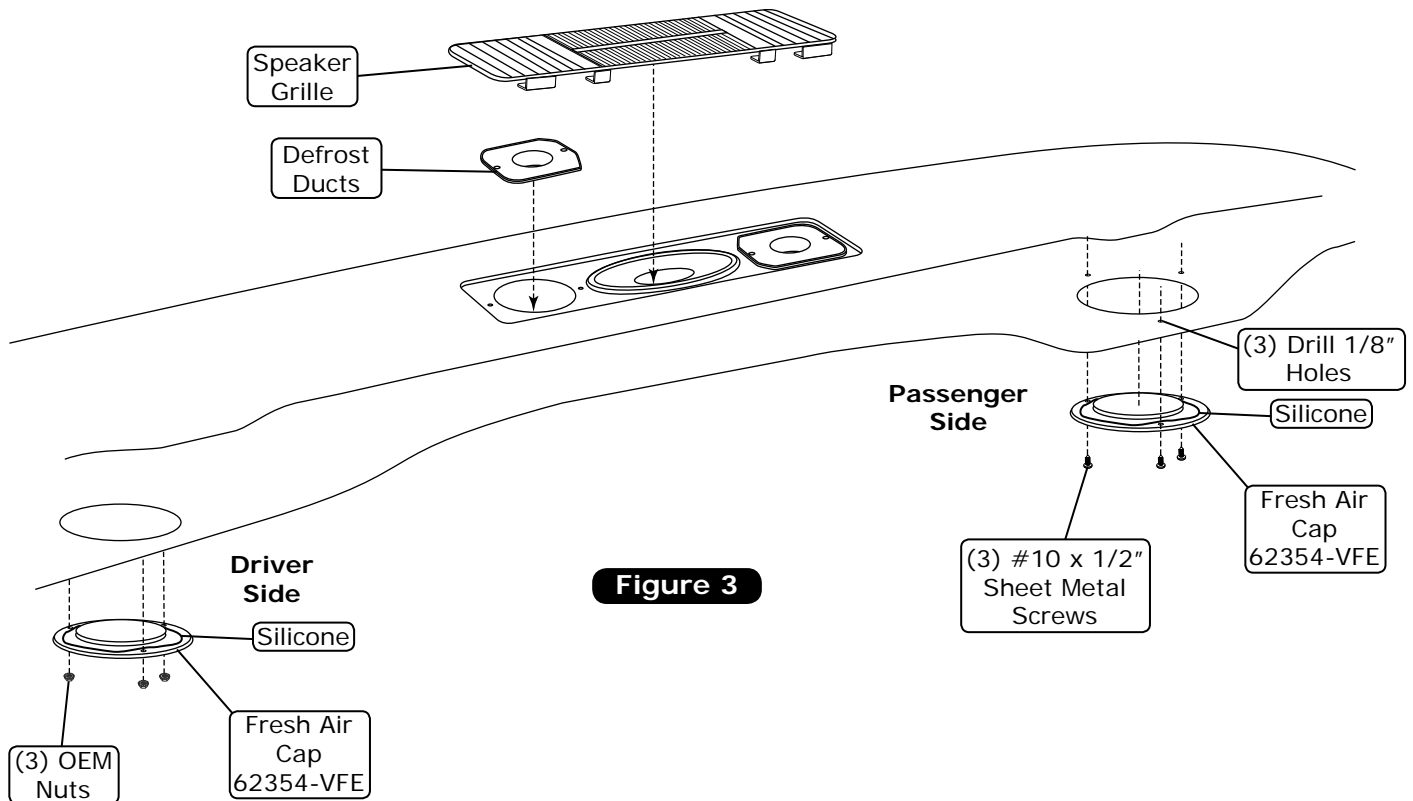

Figure 3
1. Install the defrost ducts into the dash using the OEM mounting clips (See Figure 3, below).
2. Reinstall the speaker grille (See Figure 3, below).
3. Hold the fresh air cap under the dash, and mark the (3) mounting holes (passenger side only).
4. Drill (3) 1/8" mounting holes under the dash (passenger side only) (See Figure 3, below).
5. Apply a 1/4" bead of silicone around the mating surface of the passenger side fresh air cap (See Figure 3, below).
6. Secure the passenger side fresh air cap to the fresh air hole using (3) #10 x 1/2" sheet metal screws as shown in Figure 3, below.
7. Apply a 1/4" bead of silicone around the mating surface of the driver side fresh air cap (See Figure 3, below).
8. Install the driver side fresh air cap using (3) OEM nuts as shown in Figure 3, below.